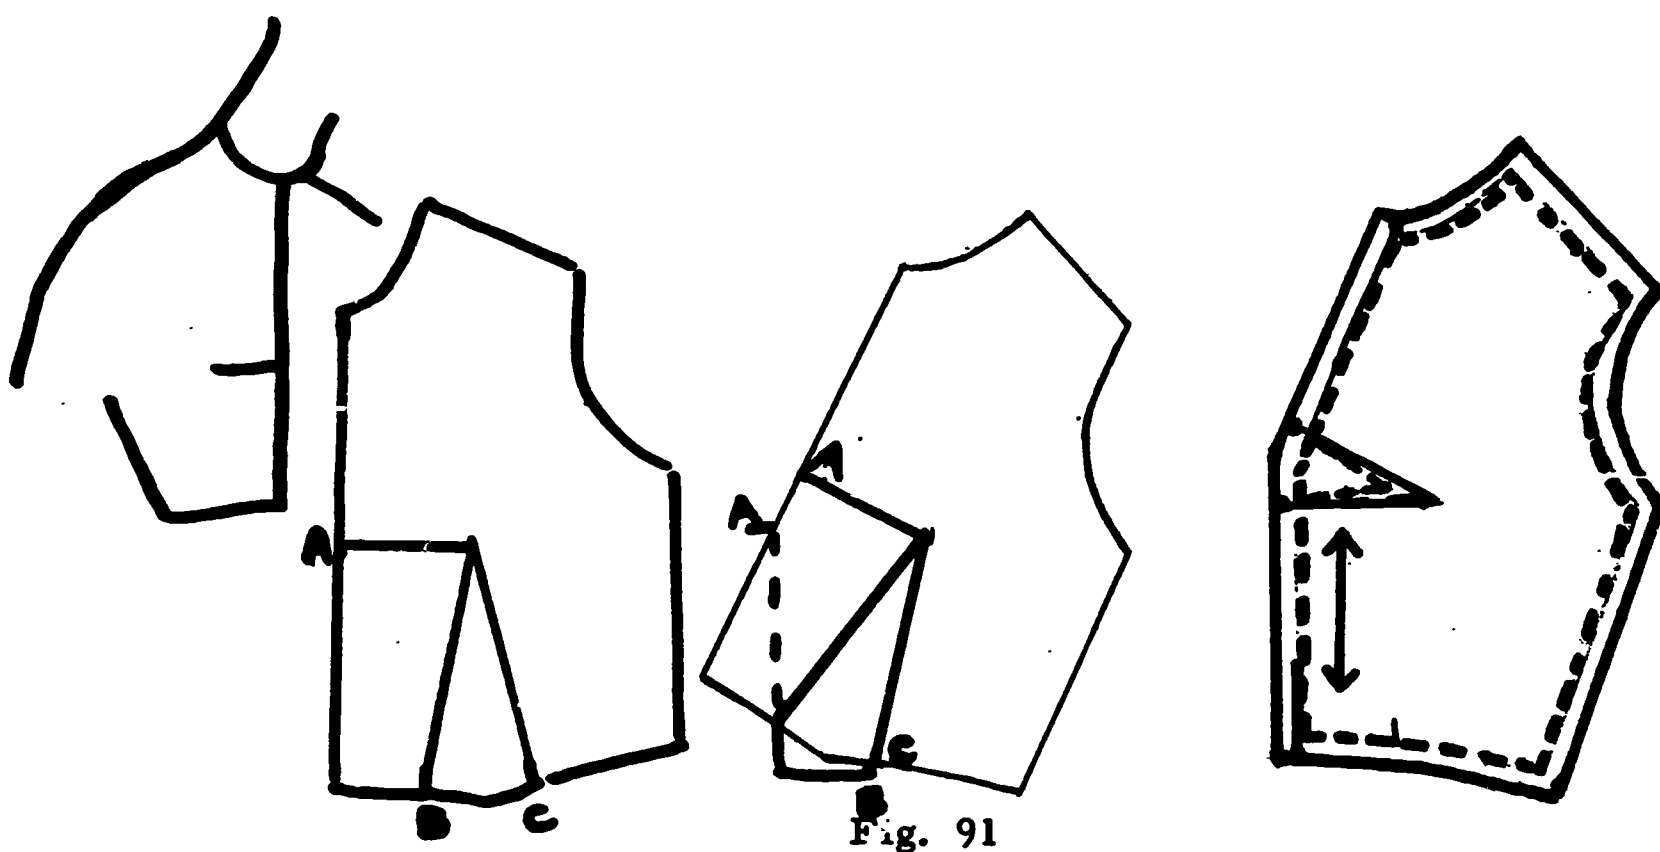

Fig. 91
A. Shift basic dart to the center-front position (Fig. 91).